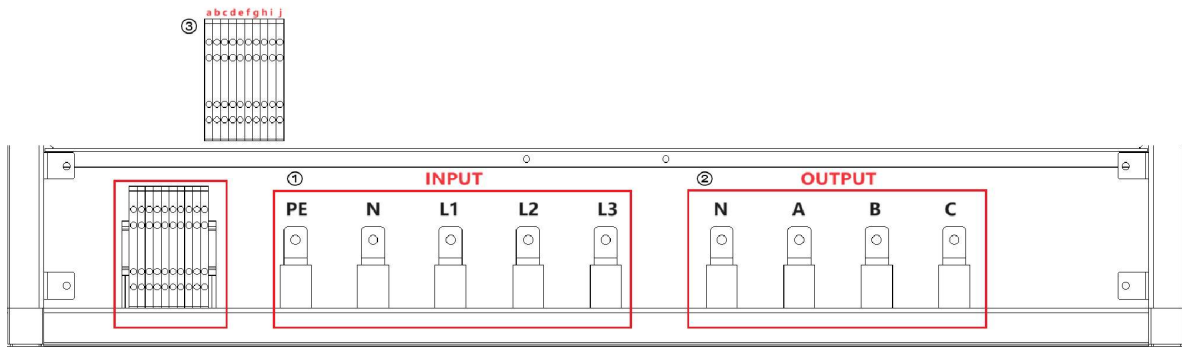

Figure 1-19
The remote sense interface is located in the wiring layer inside the power supply-③: e, f, g, h, i, j (Figure 1-19).